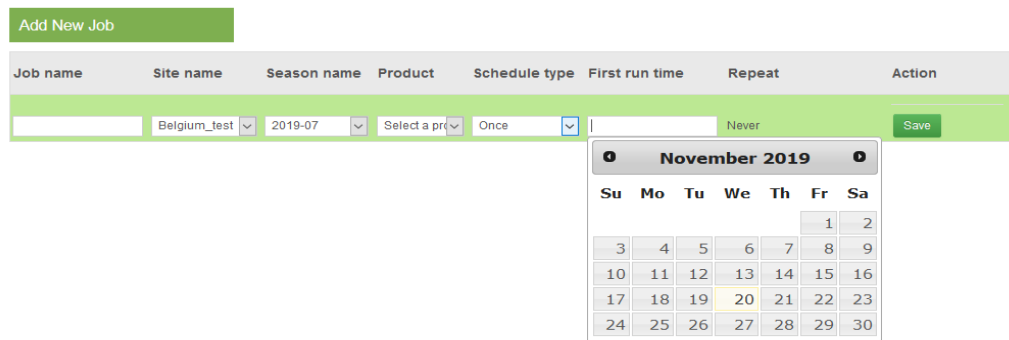

Figure 4-19. Adding “Once” scheduled type
- “Once” – this options specifies to the scheduled task to run only once at the specified date. Selecting this option, a new field “Date” will be added to the entry where the user can select the date when the scheduled task should run (Figure 4-19):